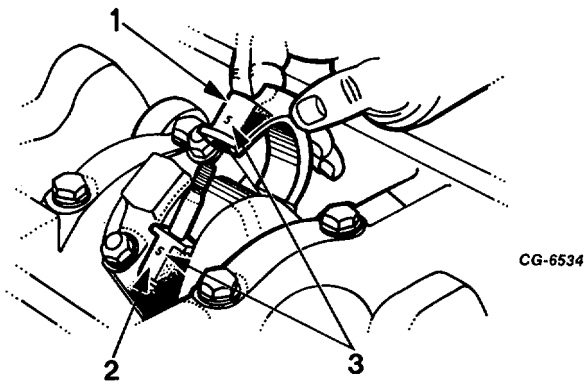

Fig. 69 Removing Connecting Rod Cap
73. Remove each connecting rod bearing cap and push connecting rod and piston assembly from the cylinder bore (Figures 69 and 70). Replace cap and bearing inserts on rod so that identification numbers match.